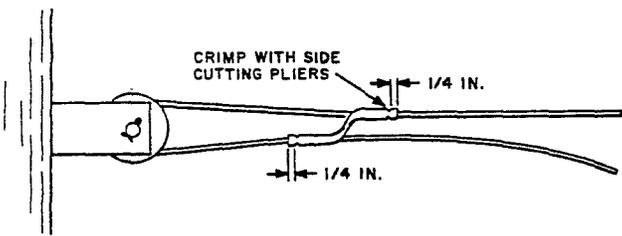

Fig. 2—Dead-End Sleeve Crimped
- (4) Crimp the sleeve about 1/4 inch from each end with the cutting edge of the side-cutting pliers to hold the sleeve in the desired position (Fig. 2).